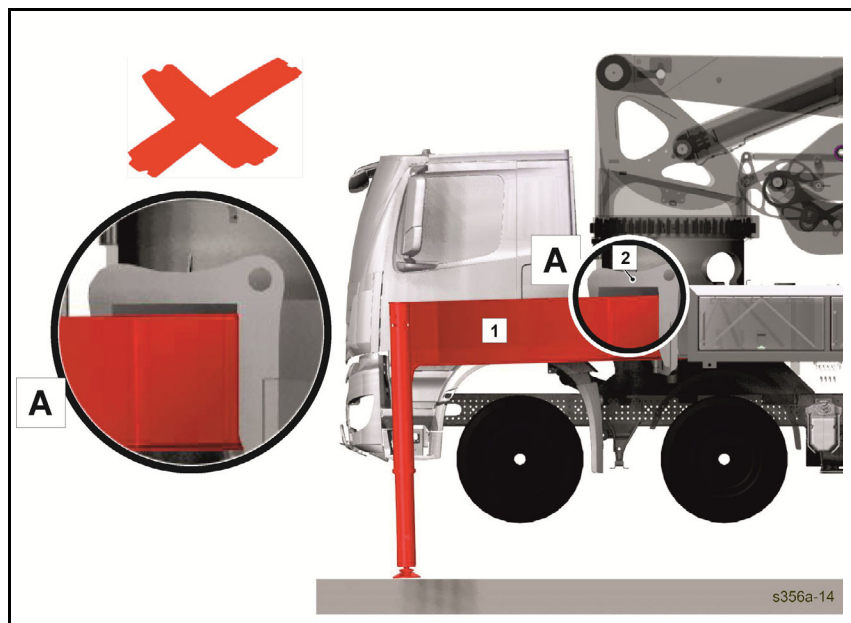
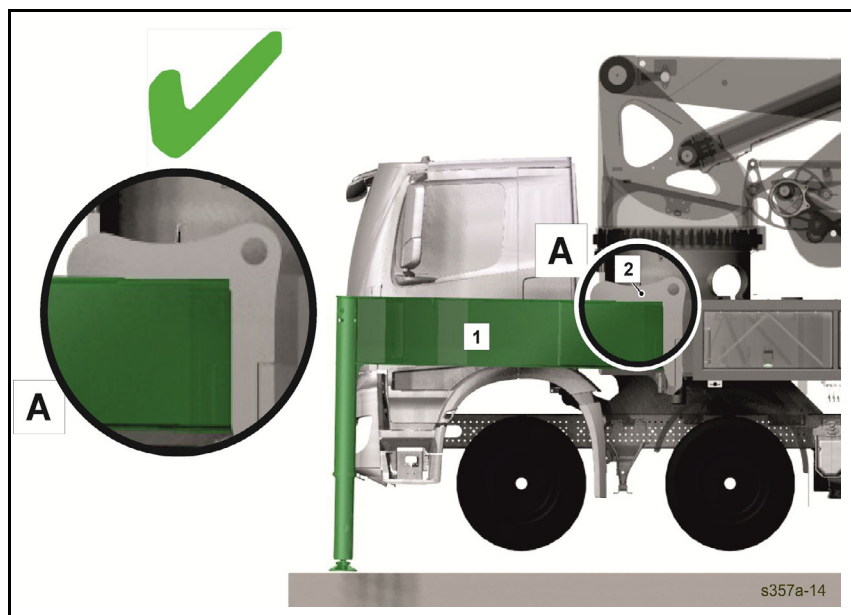

Fig. 159 Example of incorrect distance between outrigger and base frame
Fig. 160 Example of correct distance between outrigger and base frame
- Note that there is no space between the outriggers (1) and base frames (2) after being raised (none of the vehicle wheels are touching the ground), see **(Fig. 159)** and **(Fig. 160)**. Should one of the outrigger stands not be in contact with the base frame, extend the supporting leg further until the outrigger stand is in contact with the base frame.
Caption (Fig. 159)
Caption (Fig. 160)